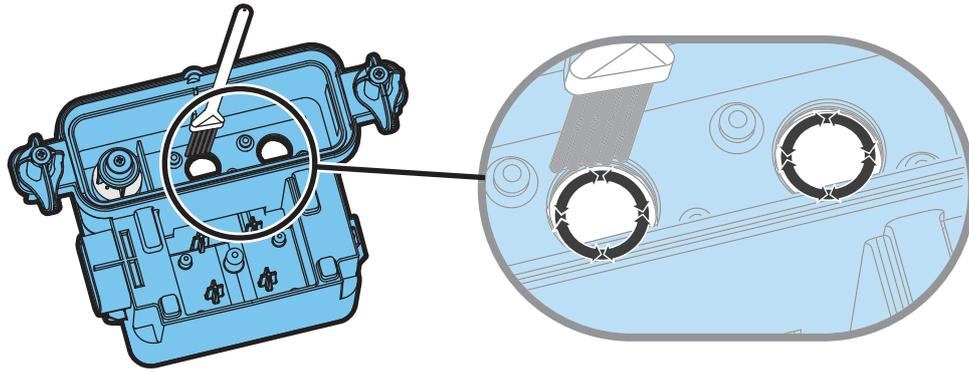

Fig.13
9. Put a small amount of washing up liquid into the sump, and using the supplied brush, gently clean all surfaces including the metal discs and the rubber seal located in the top grooved surface. **Do not remove the rubber seals.** (See Fig.13 and 14)